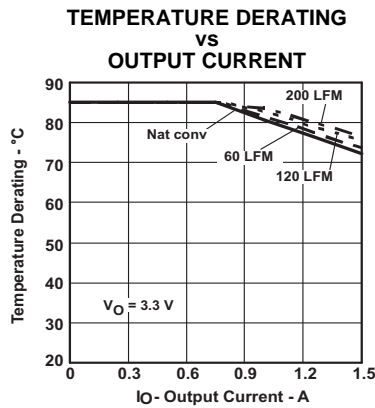
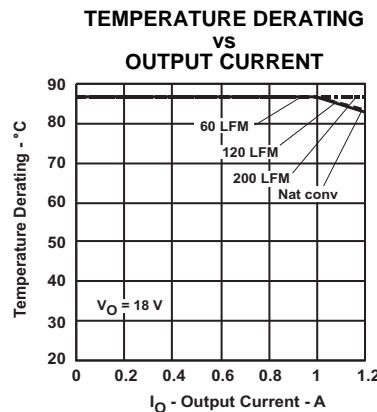

Figure 13.
Figure 17.
- (2) The temperature derating curves represent the conditions at which internal components are at or below the manufacturer's maximum operating temperatures. Derating limits apply to modules soldered directly to a 100-mm x 100-mm, double-sided PCB with 2 oz. copper. For surface mount packages, multiple vias (plated through holes) are required to add thermal paths around the power pins. Please refer to the mechanical specification for more information. Applies to Figure 13 through Figure 17.